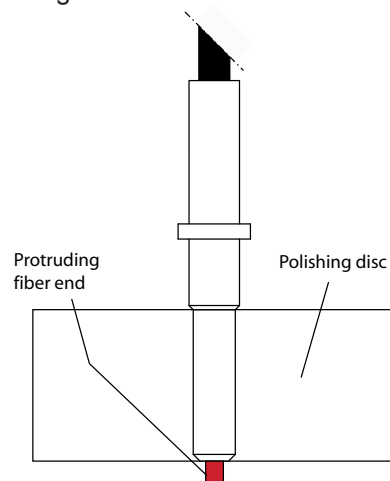

Fig. 8 Polishing disc with lead of the connector sleeve
- Put the connector into the polishing disc (910PS0SC00001) (see figure 8) and grind off the overcomming end of the fiber with polishing paper graining size 1000 on a plain base (e.g. sheet of glass) and make a final polish with a polishing paper grinding size 4000